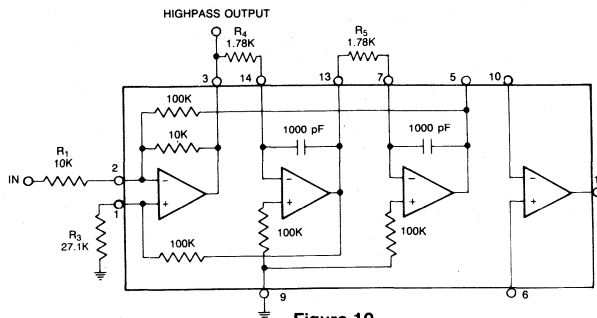

Figure 10.
4. This completes the highpass filter design which is shown in Figure 10. When using this filter, care should be exercised so that clipping does not occur in the filter due to excessive input levels. If clipping occurs, the filter will not operate properly. Clipping will first occur at the lowpass output around f₀ since its gain is 20 dB higher than the highpass output. The signal level should be reduced so that clipping does not occur anywhere in the frequency range used. If higher signal level is required, the highpass output should be amplified by a gain stage using the uncommitted operational amplifier.